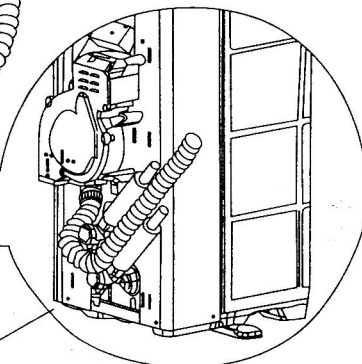

Fig 2
3. Joint the air fresh hose with the interface of the propeller housing and fix with outdoor hose clamp ($\phi 30$) (Fig 2)